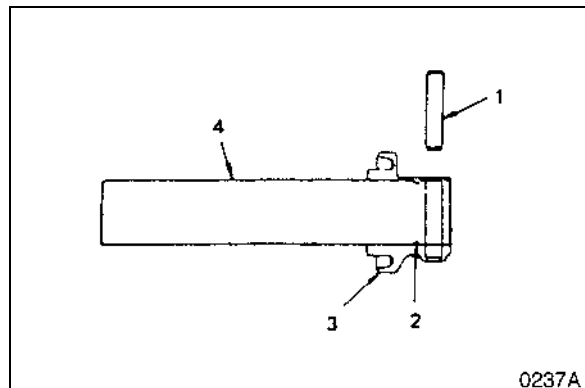

Figure 35
3. Align collar (3, Figure 35) and axle (4) pin holes and pin (1) the collar.